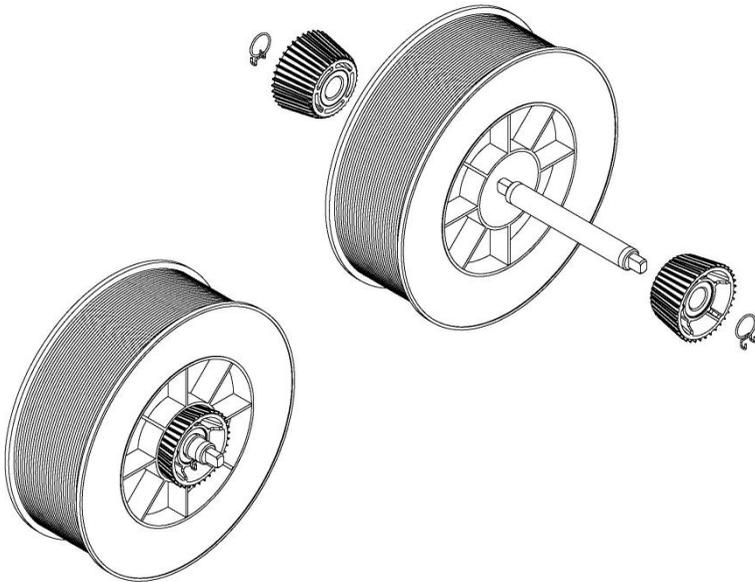

Fig.3 Assemble Filament Spool
- 1 Prepare filament spools with the mounting rods and adapters, as shown in the Fig. 3. Make sure the adapters are firmly engaged with the spool.